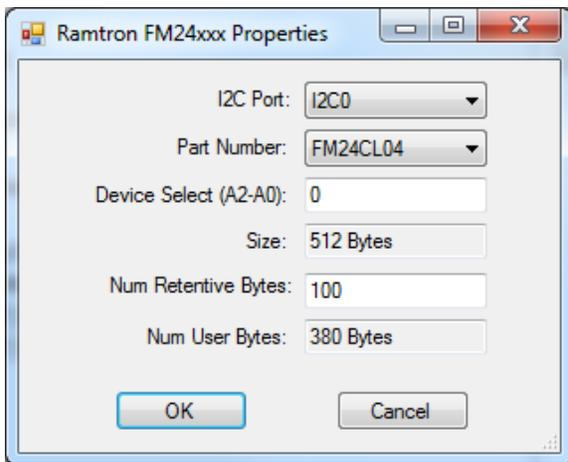

Figure 2-14 - Ramtron FM24xxx Properties
2. Click the **PROPERTIES** button to the right side of the window. The **HEC-Gateway's Properties** Window will open. Make sure the proper model is selected in the drop-down menu. If the EEPROM feature was already installed, it would be displayed in the Devices Pane under the *Internal* heading (as `PLCHIP_Pxx_eeprom`). Refer to Figure 2-14.